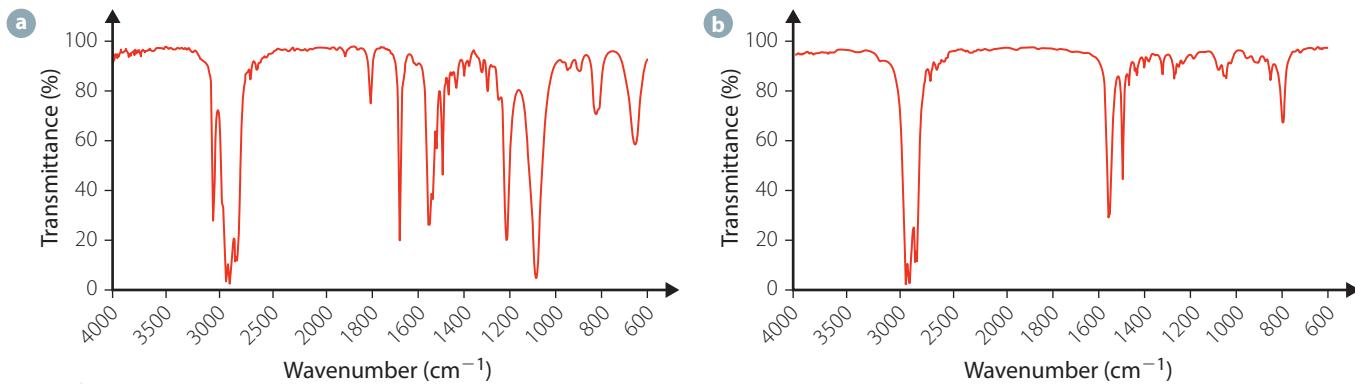

FIGURE 15.31 1-hexene or hexane spectra (in no particular order)
- 9 Compare the two spectra in Figure 15.31. Assign each to either 1-hexene or hexane. Justify your decision. Account for the main absorption bands.